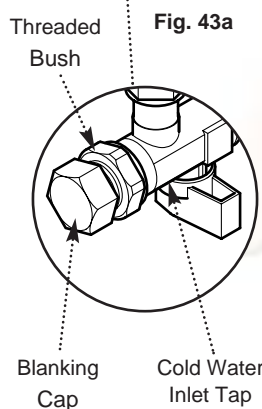

Fig. 43a
19. Turn the tap off. Undo the blanking cap and remove the threaded bush (Fig. 43a).